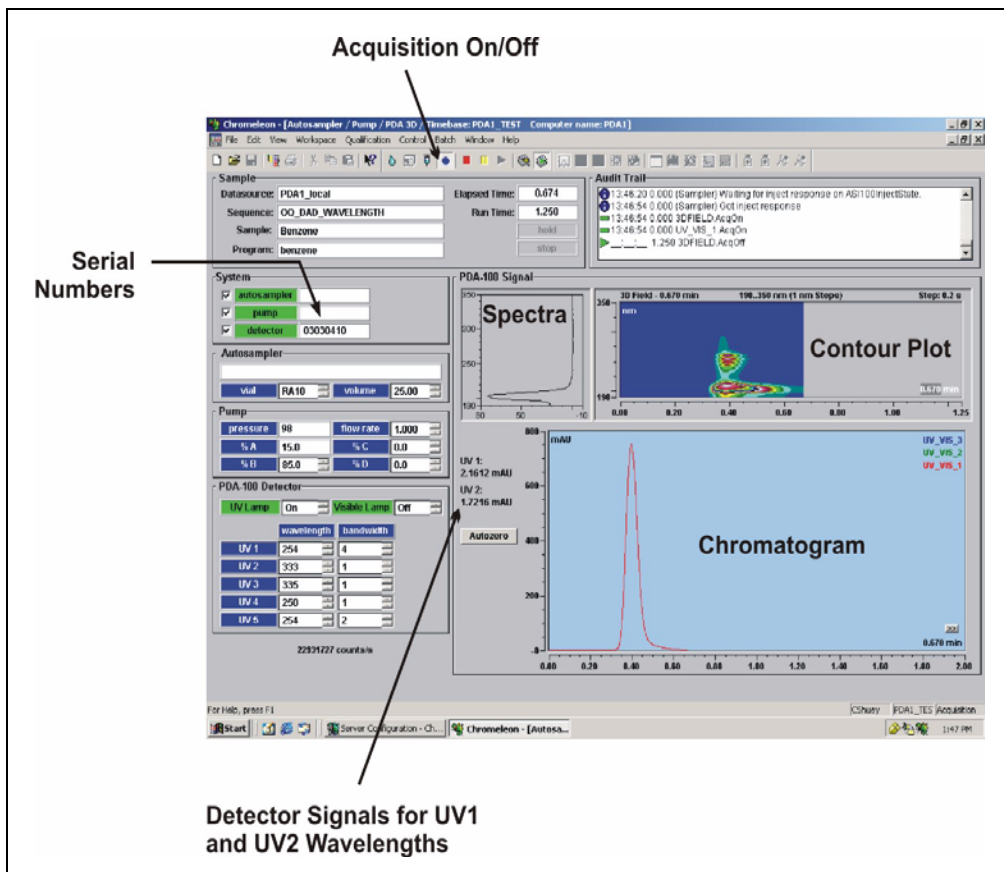

Figure 3-2. PDA-100 3D Control Panel Example
- DIONEX\_PUMP\_PDA3D\_AUTOSAMPLER.PAN, the 3D control panel, monitors chromatograms, contour plots, and spectra on-line (see Figure 3-2). The 3D control panel is available only when PeakNet 6 or Chromeleon includes the 3D option.
- DIONEX\_PUMP\_PDA3D\_AUTOSAMPLER.PAN, the 3D control panel, monitors chromatograms, contour plots, and spectra on-line (see Figure 3-2). The 3D control panel is available only when PeakNet 6 or Chromeleon includes the 3D software option.